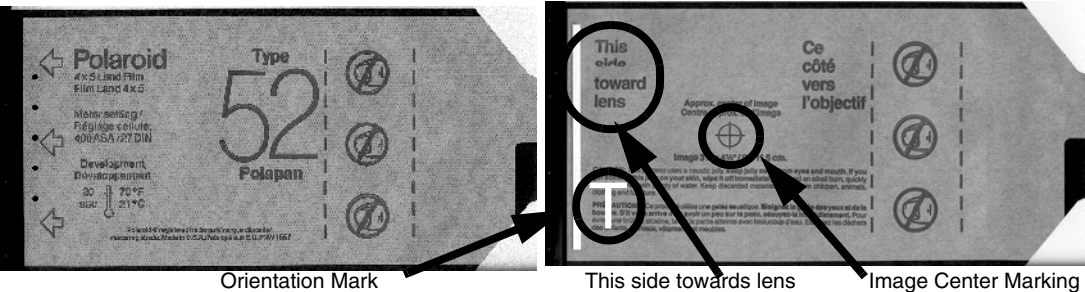

Figure 11-7 Polaroid Film, Type 52
- Type 52 Polaroid Film (see Figure 11-7)
Orient the side of the film marked “**This side toward lens**” toward the iso center (see Figure 11-7). When exposed and developed later, the film shows the alignment of the X-ray beam with respect to the table, as viewed from the X-ray tube in the 3:00 o’clock position.